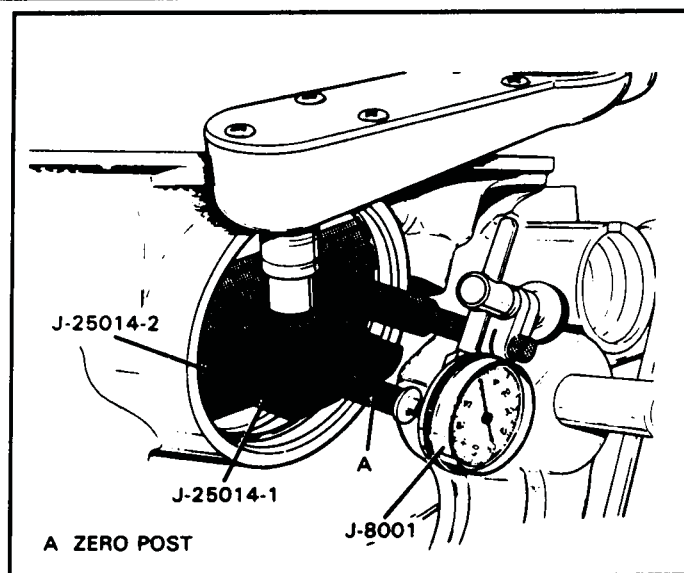

Figure 32
11. Install band apply pin checking tool in the case servo bore and retain with the servo cover snap ring, as shown in Figure 32.
14. Install dial indicator as shown in Figure 32, and zero the dial indicator.